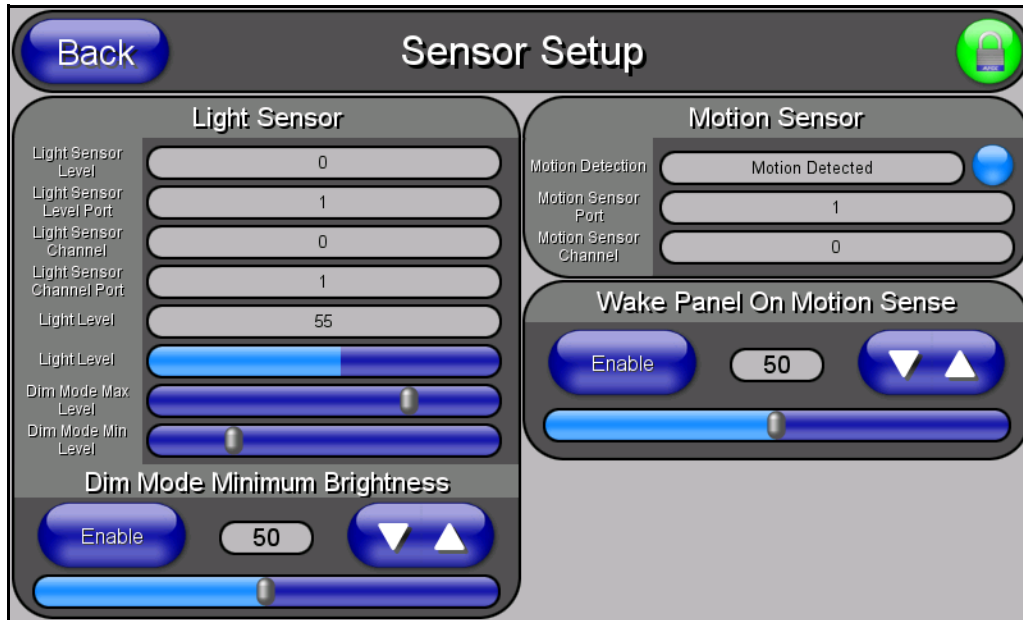

FIG. 79 Sensor Setup page
The Sensor Setup page (FIG. 79) allows you to adjust the Light and Motion Sensor parameters on a Modero touch panel.
3. Open the Sensors Setup page (FIG. 79) from the Protected Setup menu section.